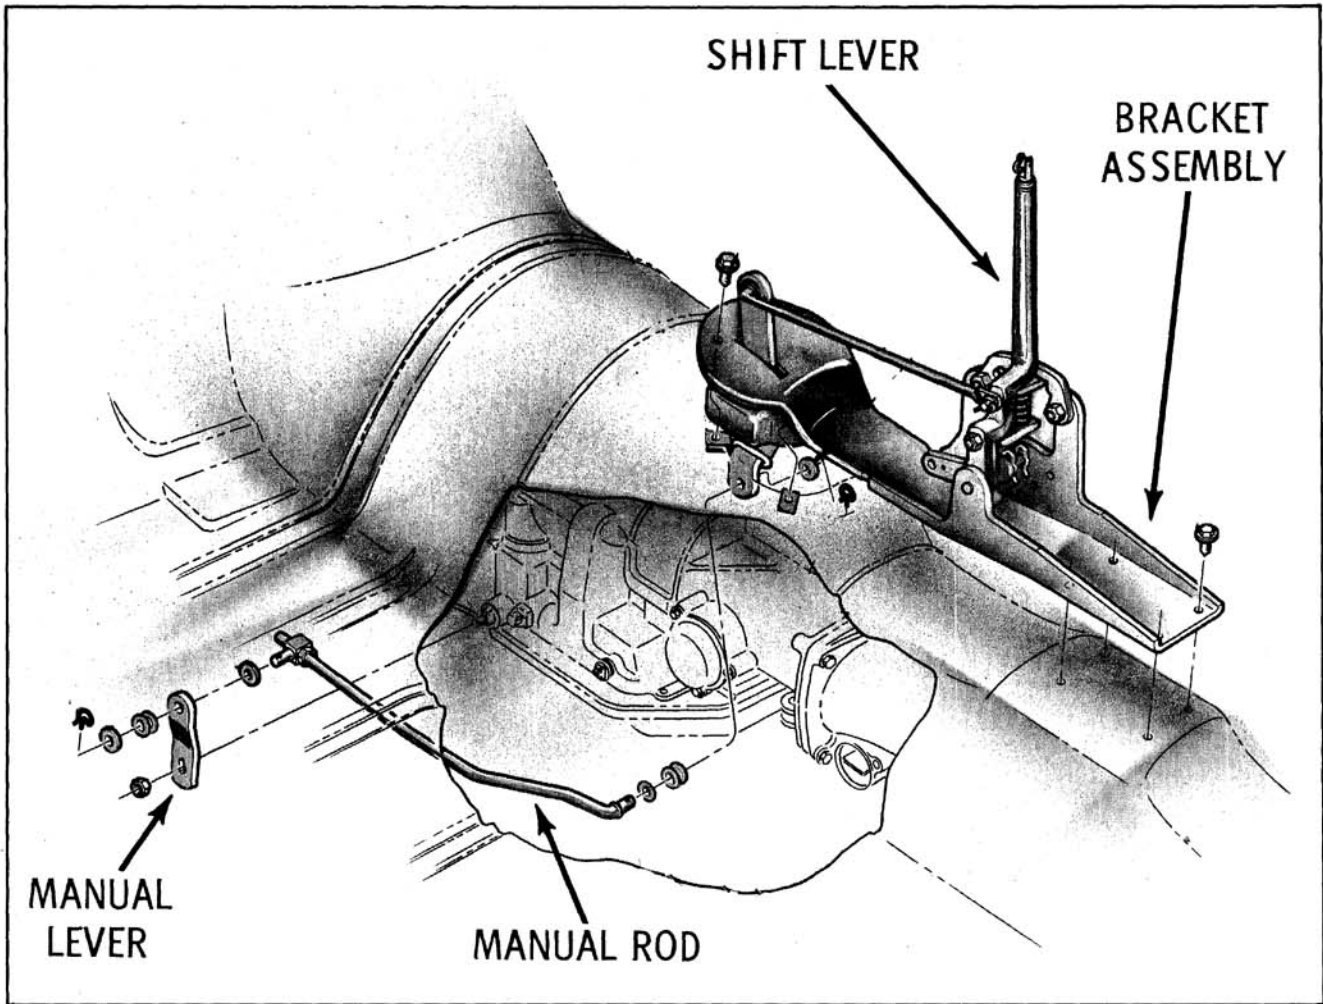

Fig. 6-337 Manual Rod
**MANUAL SHIFT LINKAGE ADJUSTMENT (Figs. 6-337, 6-338 & 6-339)**